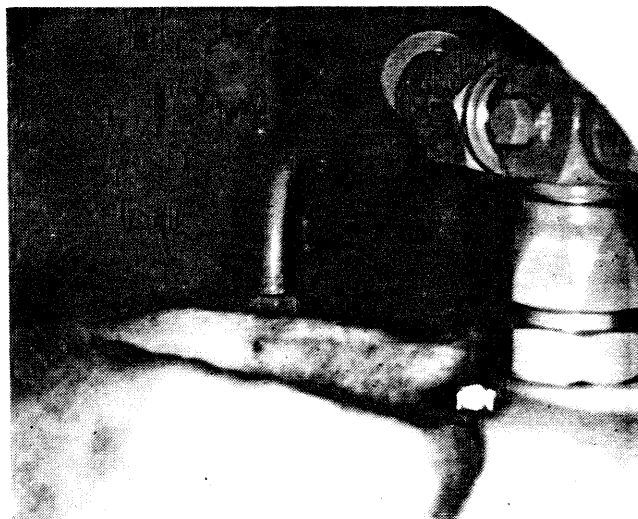
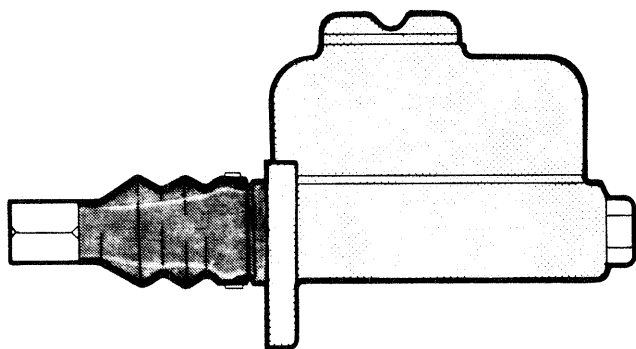

Fig 13-11
Fig 13-26
**IMPORTANT NOTE:** The above dimension is for dual stage master cylinders as shown in Fig 13-11. On older machines, with single stage master cylinders (See Fig 13-26 below), the dimension should be 20,6 cm (8.1 in).